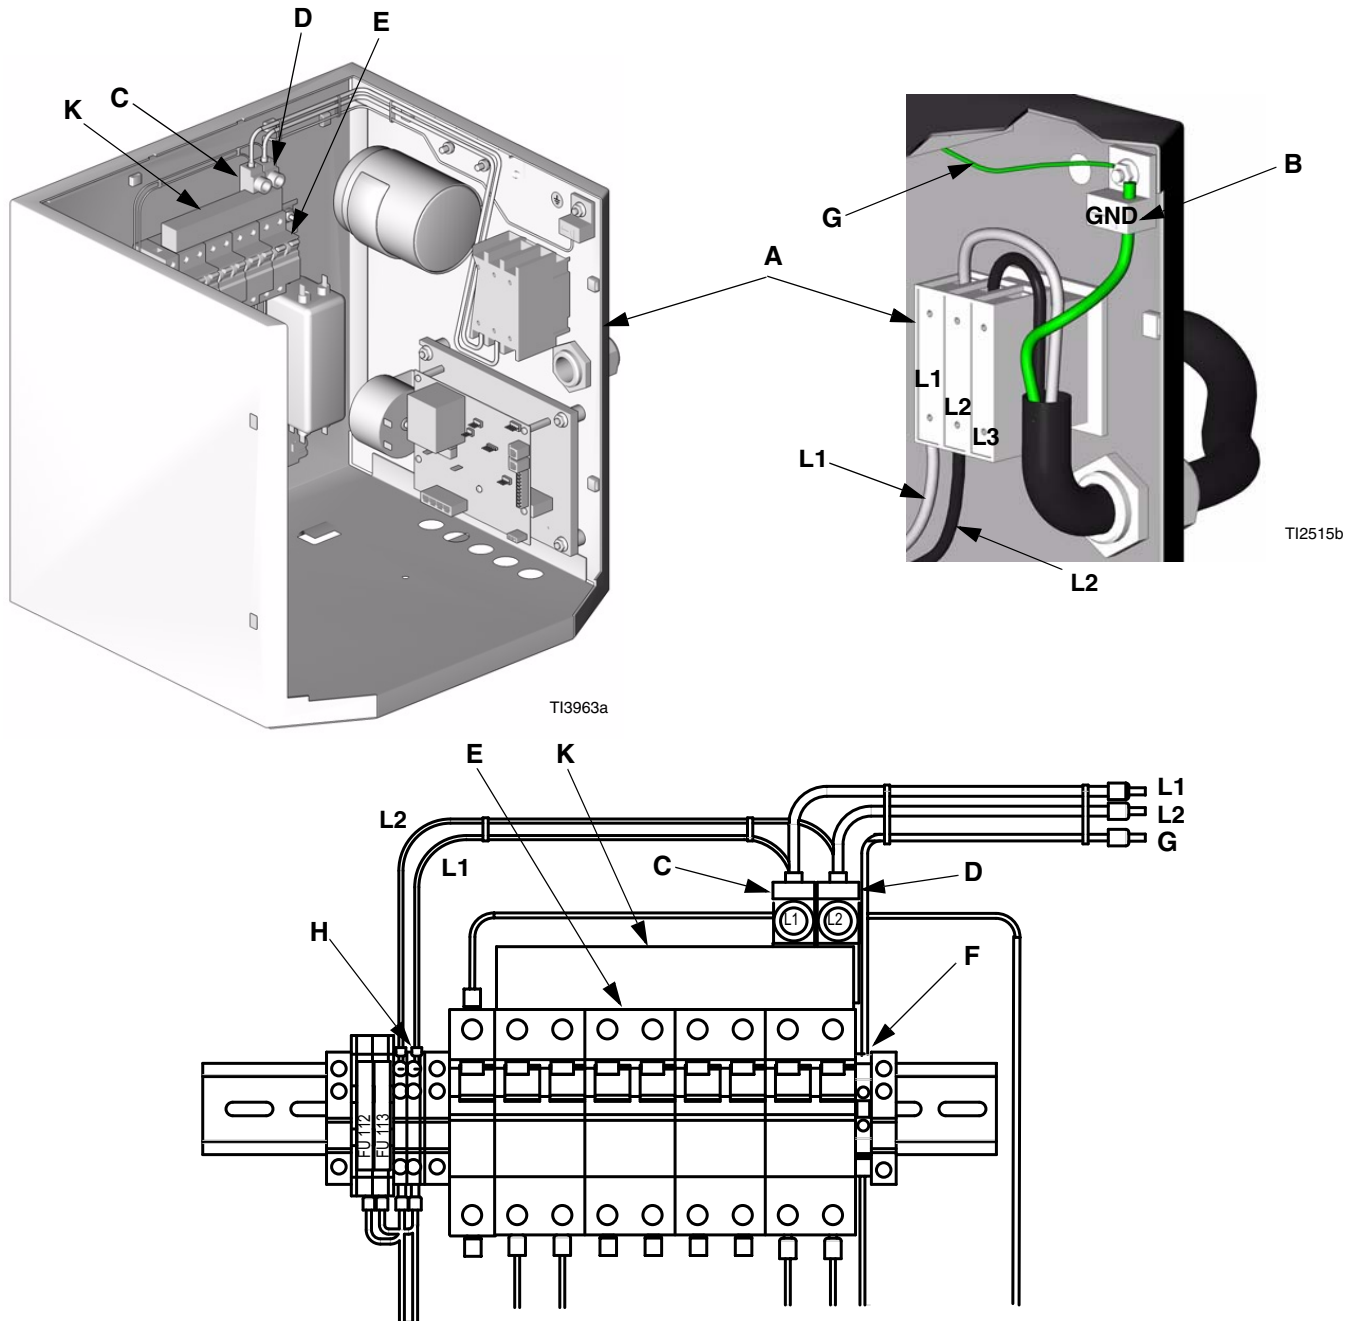

FIG. 1. Kit 248122 for Electric Reactors - Remove 1 Phase Wire Harness and Hardware
3. See FIG. 1 on page 2. Using 5/32 or 4 mm hex allen wrench, disconnect wire harness (L1, L2) from disconnect switch (A). Do not disconnect the main power leads.